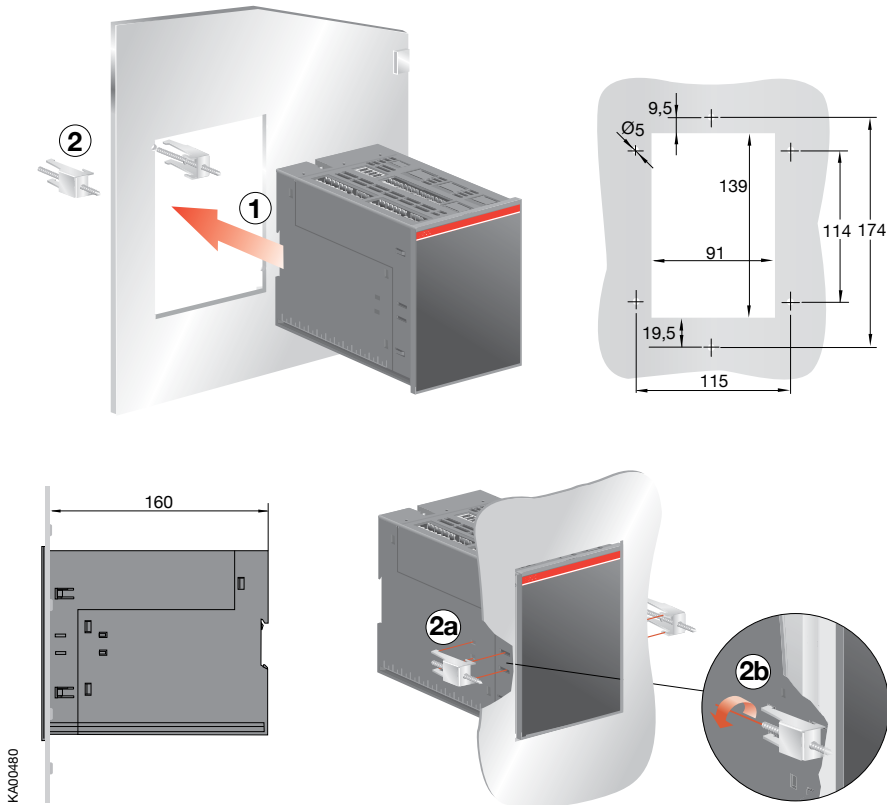

Figure 5.3 Automatic transfer switch ATS021, door mounting
The automatic transfer switch ATS021 can be mounted on the door with the fastener, see Figure 5.3 /① and ②. Door drilling when mounted on the door according to Figure 5.3.